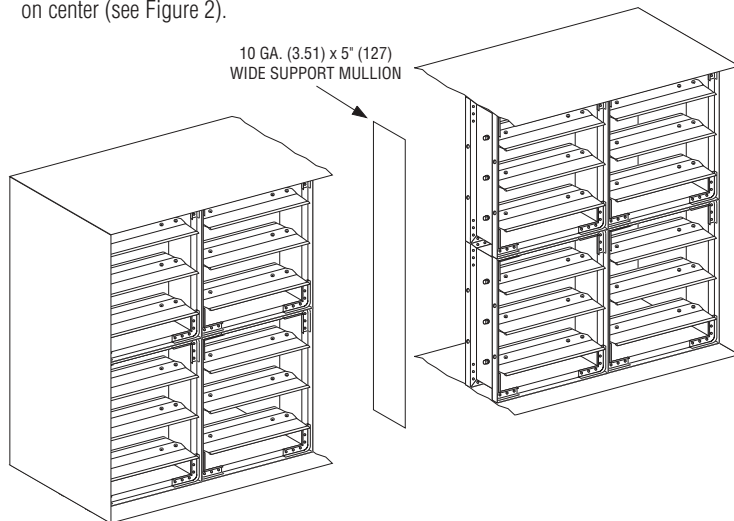
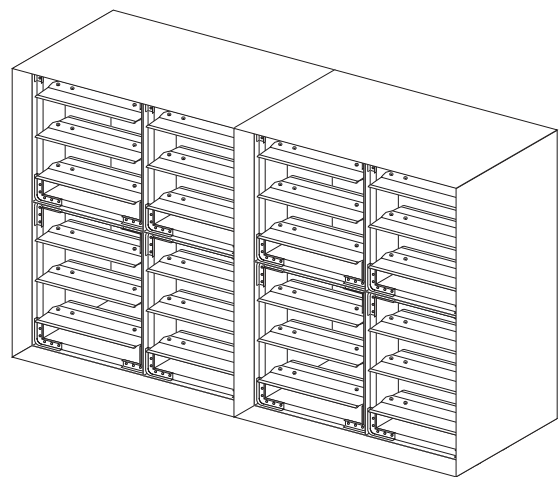

Figure 1. Single sleeve around outside and vertical mullion
Figure 2. Two individually sleeved units (No mullion required)
9. Multiple-section assemblies: In multiple assemblies of vertical dampers, the frames shall be joined together on both sides of the damper using 1/4" (6) long welds, 1/4" (6.35) dia. bolts and nuts, or #8 sheet metal screws. Maximum 6" (152) on center.
Multiple section vertical damper assemblies, over two sections wide, require a 10 ga. (3.51) x 5" (127) flat vertical mullion between one pair of sections (see Figure 1). When a minimum 16 ga. (1.6) sleeve is used and a left and right section are sleeved separately, the sleeve acts as the mullion, therefore no mullion is required. The sleeves shall be joined together on both sides of the damper using 1/4" (6) long welds, 1/4" (6.35) dia. bolts and nuts or #8 sheet metal screws. Maximum 6" (152) on center (see Figure 2).